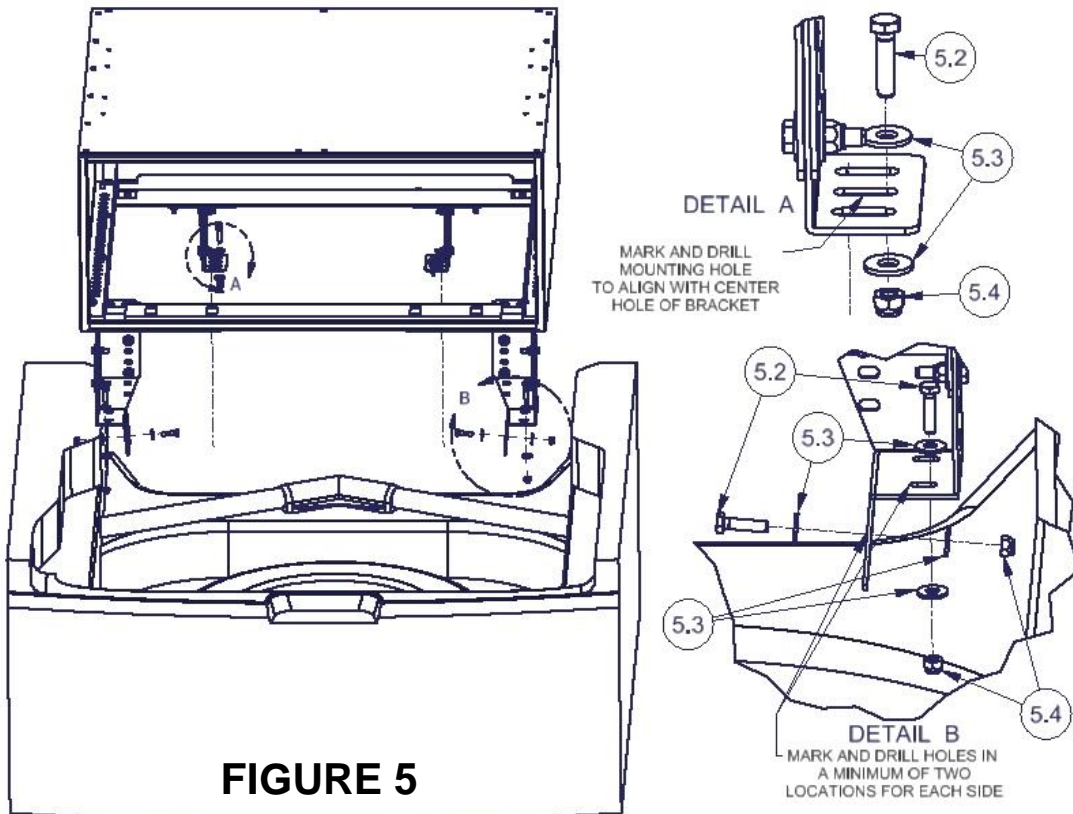

FIGURE 5
4. Place the enclosure with the mounting brackets in the rear of the vehicle. There must be a 2" gap front-to-back between the drawer front and the rear liftgate. Check that the liftgate shuts with enough clearance for the drawer handle. (See Figure 5) **OPTIONAL:** At this point in the installation it may be useful to use the #9 Rear Apron to position the drawer for mounting. (See Step #8/Figure 6)
5. Mark the spots under the illustrated holes in the #2, #3 and #6 mounting brackets for drilling. (See Figure 5)
6. Remove the drawer enclosure and drill out the marked spots to 3/8". (See Figure 5)
7. Fasten the enclosure with the brackets mounted to the floor of the vehicle as illustrated using the provided #5.2 Bolts, 5.3 Washers & 5.4 Nuts through the drilled holes (See Figure 5)